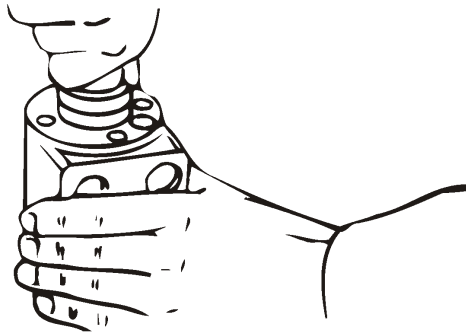

Figure 5-29, Output Shaft In Position
9. Install the needle thrust bearing, then the bearing race onto the output shaft. Pull the output shaft partially out of the housing. Push all three parts into the housing together (Figure 5-29). The bearing race must rotate freely when in position.